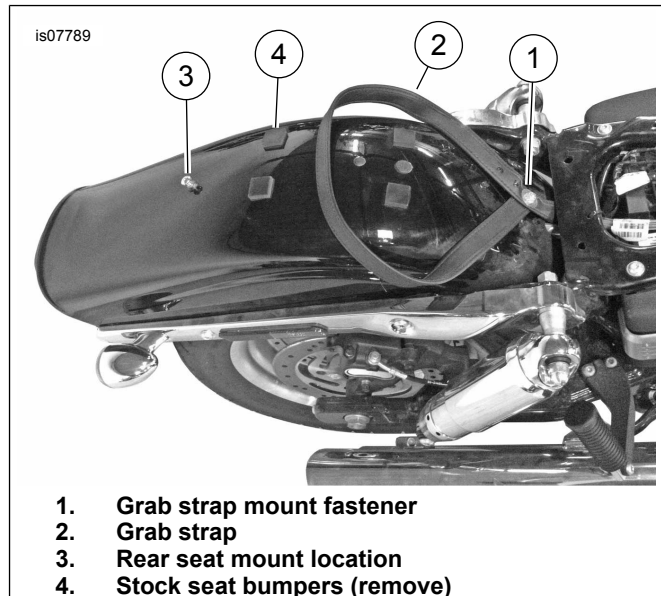

Figure 4. Dyna Model Rear Fender Configuration
- See Figure 4. Remove the OE grab strap (2), if present, by removing the nut and washer (1) from the forward fender location. Save the hardware for later installation. Discard the strap.
- If the motorcycle is not equipped with a grab strap mount stud at the forward strap-mount hole location (1), one must be installed in order to install the seat.
- See Figure 4. Install the flange screw from the underside of the fender through the grab strap mounting hole (1) in the fender. Secure the screw with the retention nut.
3. See Figure 4. Install the grab strap holes over the forward fender stud (1) so the stud protrudes inside the loop.